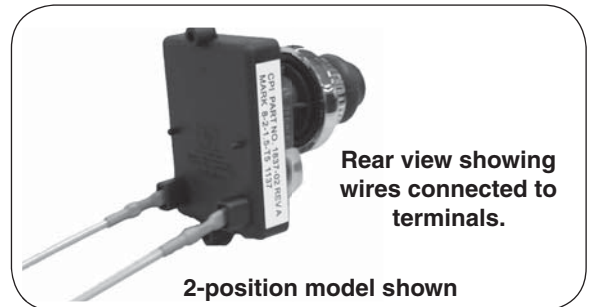

Fig. 1-2 Spark generator wires
**CAUTION:** The spark generator is attached to the face or panel. Carefully unplug all wires from the spark generator before pulling it away from the unit (see Fig. 1-2).